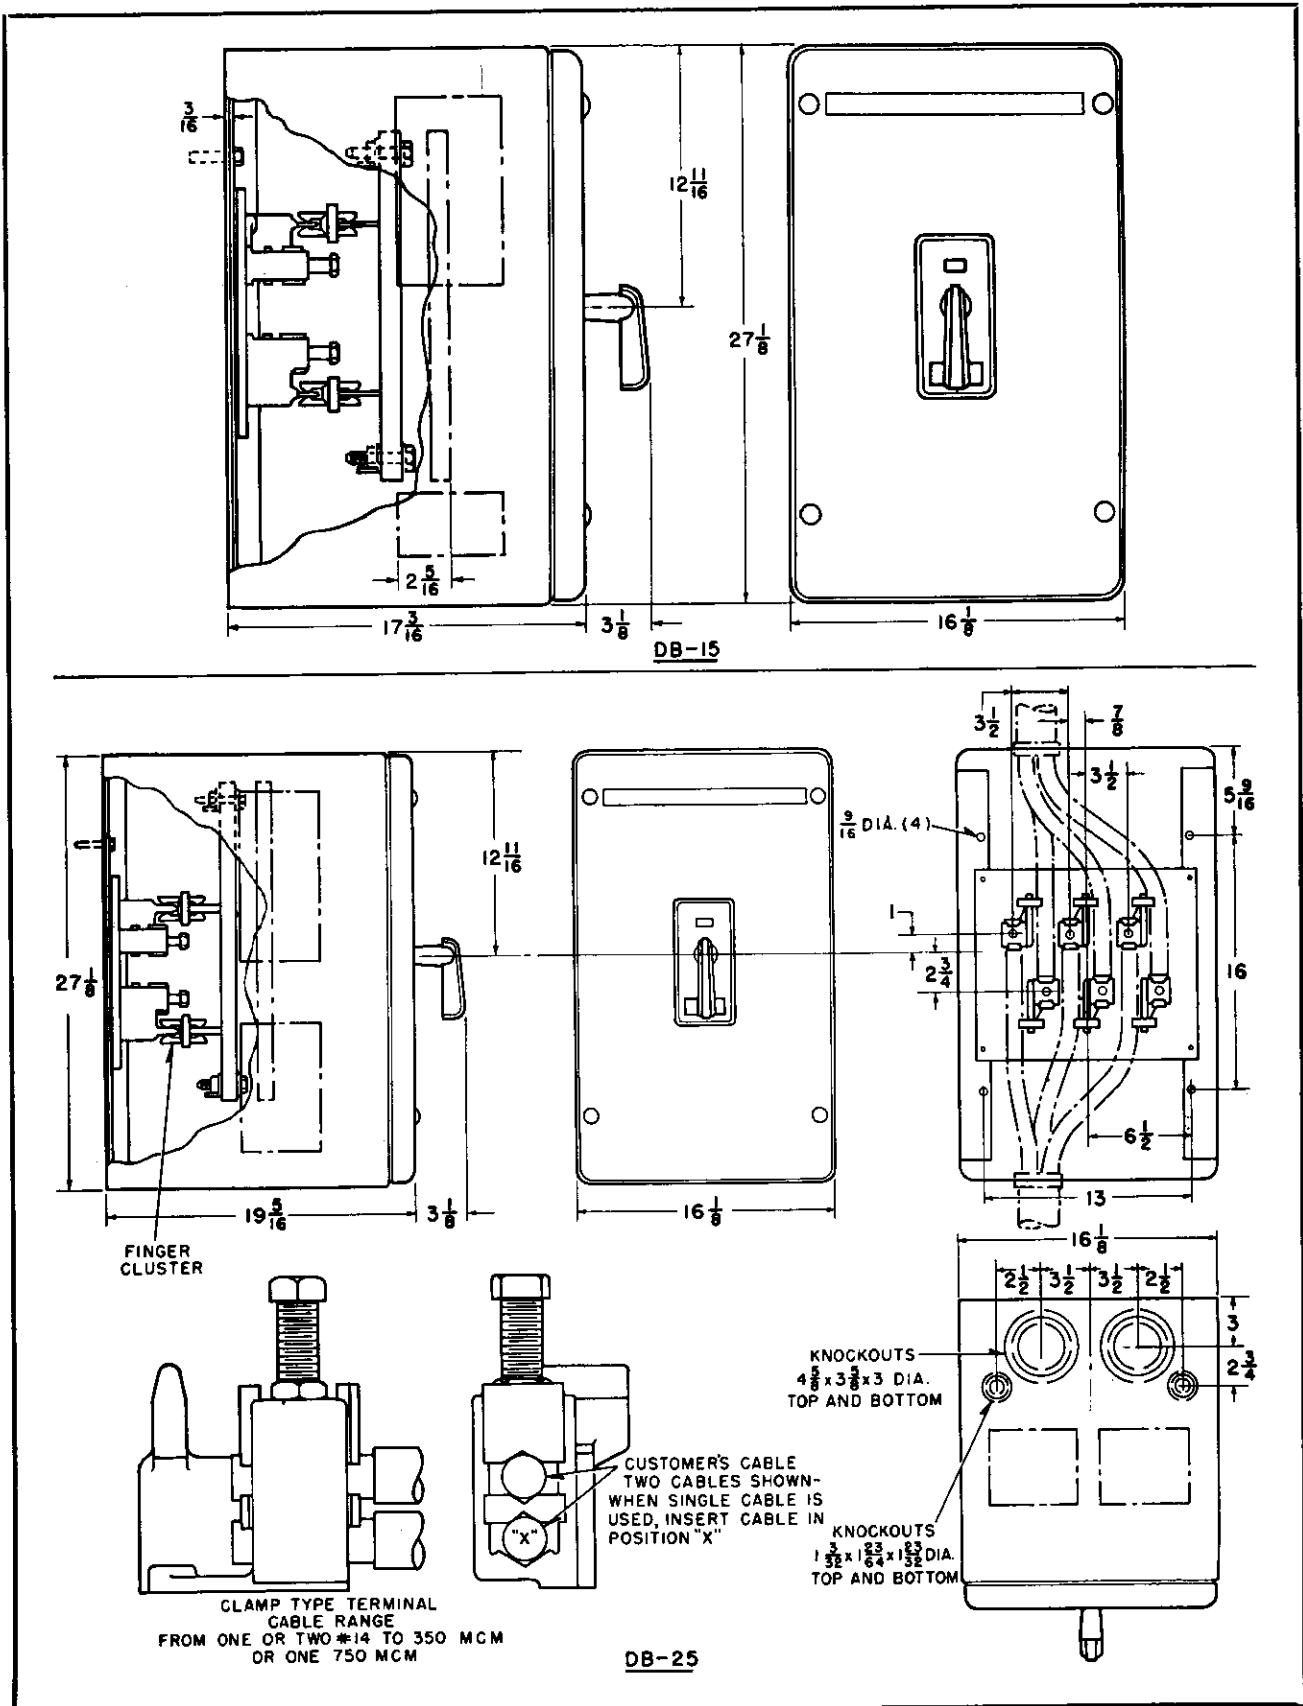

FIG. 5. Ventilated Enclosures—Outline Dimensions and Mounting Details
The terminal panel and breaker arrangement shown in Fig. 5 apply specifically to ventilated enclosures. The same arrangement is used for all other enclosures (weatherproof, subway, explosion-proof, dust tight and semi-dust tight) except
1. Connect the entrance cables first. Whenever possible, the power cables should be connected to the top terminals to remove voltage from the over-current attachments when the breaker is open. The cables can be connected to the nearest terminal, or to the opposite terminal as shown in Fig. 5. Tin the ends of the cable to prevent the formation of copper oxide. Tighten the clamp bolt securely and lock with the lock nut.
4. Always rotate the operating handle to the tripped position before removing the front cover. A trip rod (not shown in Fig. 5) holds the breaker trip free when the front cover is off. When operating the breaker in the test position (front wheels engaging the slot in the rail), it is unnecessary to hold this rod in manually to secure closure of the breaker. When fastening the cover in place, draw the four cover bolts down firmly.